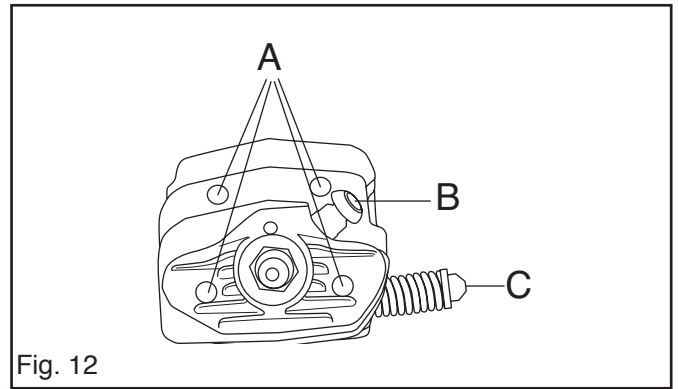

Fig. 12
4. Fit the decompression valve (B). See fig. 12. Tighten it to 15 Nm.
8. Guide up the cylinder base gasket with the four bolts (A) and tighten them alternately. Tighten them finally to 10 Nm. See fig. 12.
9. Fit the anti-vibration spring (C) on the cylinder. See fig. 12. Tighten the bolt to 10 Nm.